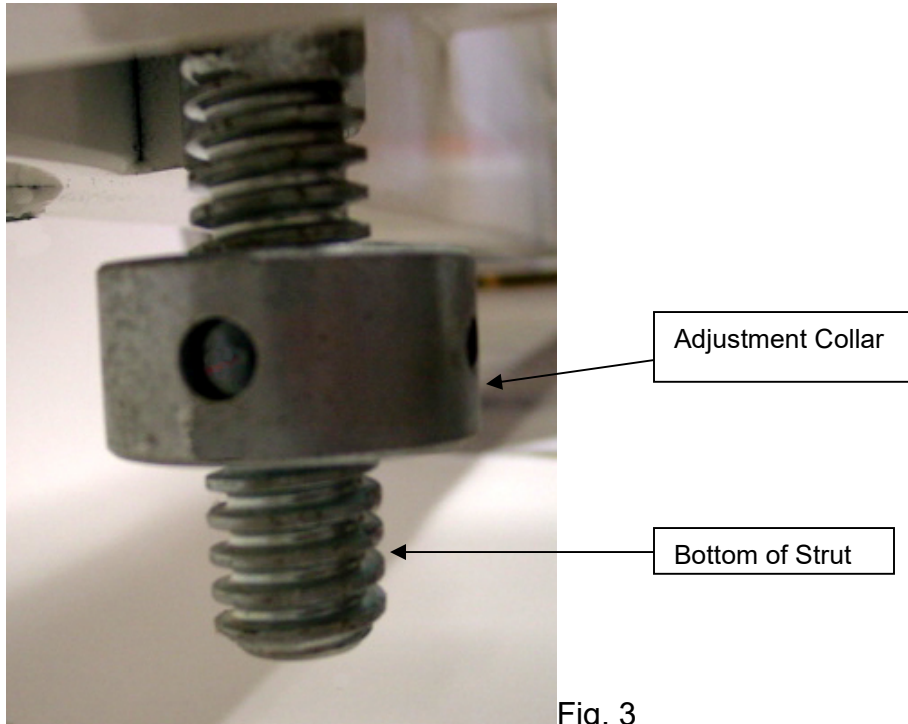

Fig. 3
- 5) If your goal is below the 10-foot mark, rotate the adjustment collar to the left (counterclockwise) to lower it slightly on the strut. If your goal is above the 10-foot mark, rotate the collar to the right (clockwise) to raise it slightly on the strut. **Keep in mind that ¼ turn on the collar can make a considerable height difference!! Be certain to move both collars the same amount, as well.** Adjusting the collar alters the amount of the threaded portion of the strut that enters the sub-frame – which in turn alters the amount the unit lifts off its wheels in the game position. (See Fig. 3)